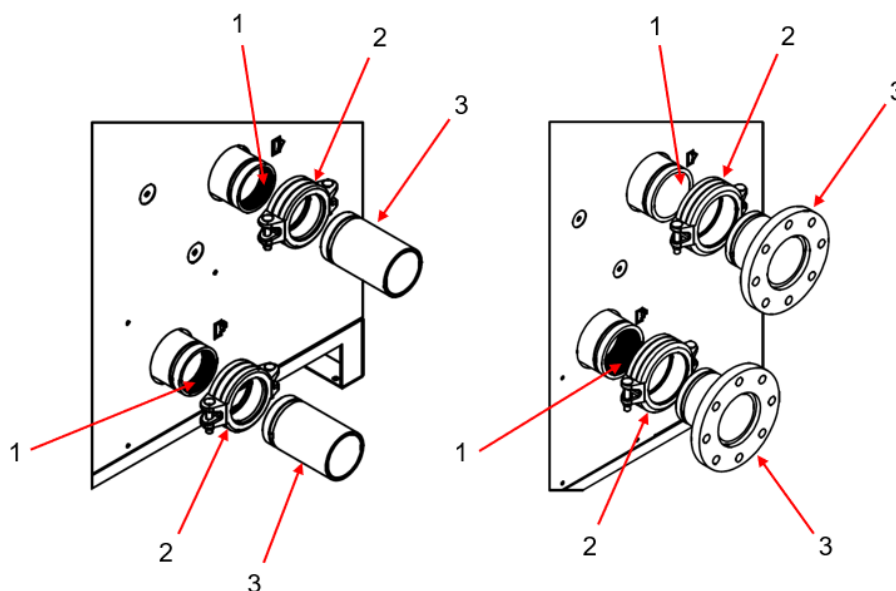

Fig.6
The dryer models in the DXR1050N-DXR2400N range are equipped with couplings (2) and threaded adapters (DXR1050N-DXR1250N) / flanged adapters (DXR1600N-DXR1800N-DXR2200N-DXR2400N) (3) supplied with the machine (Fig. 6).